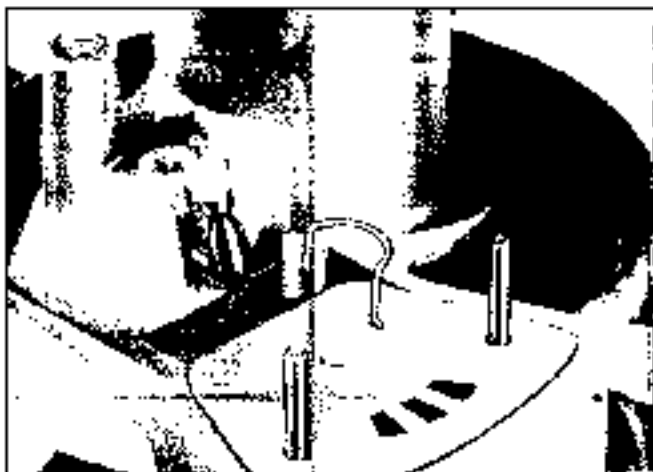

Fig. 4-21 Installing Valve Fension Spring in Boss
NOTE: Tension spring has one short foot and one long foot. The short foot fits under the distributor valve and the long foot fits into a hole drilled at an angle in the boss (see Figs. 4-21 and 4-22).
3. Install longer foot of valve tension spring in boss on first stage housing, being careful not to disturb spring (Fig. 4-21).